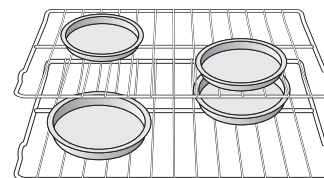

Figure 14: Pan spacing using multiple racks
- When baking cakes using 2 Glide racks, place cookware on positions 2 and 6 and position cookware allowing 2-4 inches (5-10cm) of space between the food items to ensure proper circulation.(Figure 14)